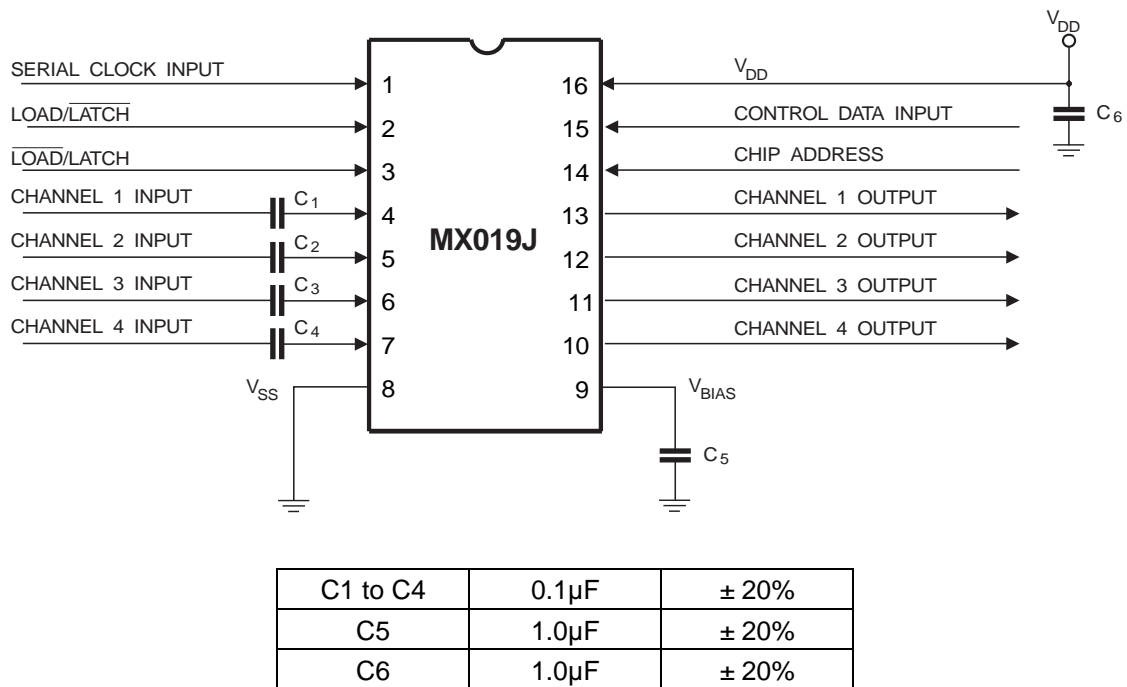

Figure 2: Recommended External Components
| 4 | 5 | Ch1 Input | <p style="text-align: center;">Analog Inputs :</p> These individual amplifier inputs are self-biasing; AC input analog signals must be capacitively coupled to these pins, as shown in Figure 2. Note that amplifiers Ch1 to Ch4 are 'inverting amplifiers.' |
| 9 | 13 | V _{BIAS} | The output of the on-chip bias circuitry, held at V _{DD} /2. This pin should be decoupled to V _{SS} as shown in Figure 2. |
3. All external components (Figure 2) should be kept close to the MX019 package.